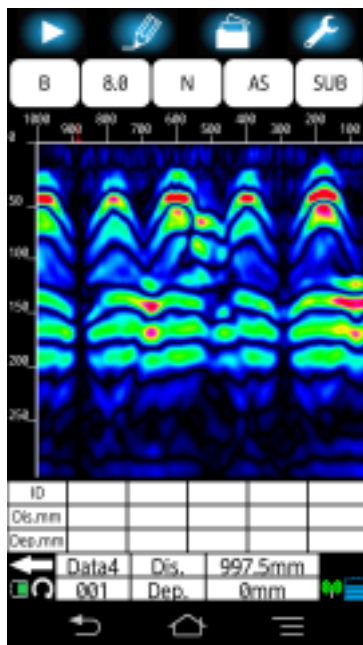

Figure 3-5 Example of B mode scan result
Tap [**Start**] icon (Refer to Figure 4-1 ①) of the main screen or press [**Start**] button on the sensor unit (Refer to Figure 1-2 ④) to stop the scan. Then a beep sounds twice and the scan is stopped. Figure 3-5 shows an example of the scan result. ([**Start**] icon is displayed as [□] during the scan, and after the scan stopped, its shape changes to [▷].)